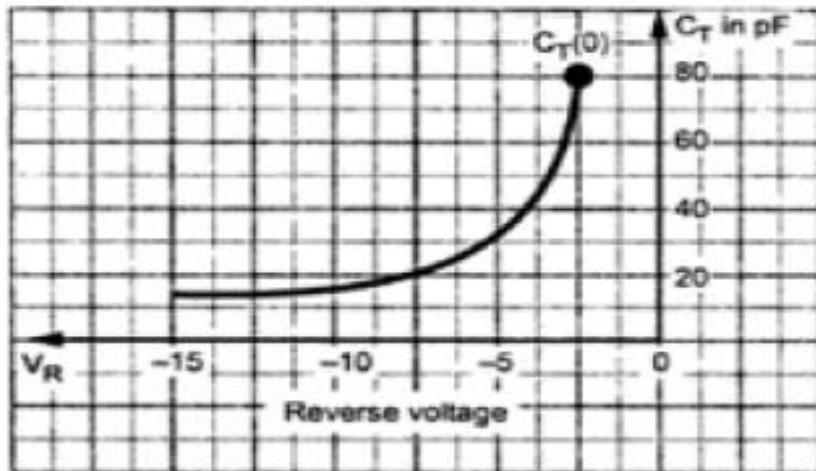

Fig. 1.16 Variation of  $C_T$  versus Reverse voltage
- As the reverse bias applied to the diode increases, the width of the depletion region (W) increases. Thus the transition capacitance  $C_T$  decreases.
- In short, the capacitance can be controlled by the applied voltage. The variation of  $C_T$  with respect to the applied reverse bias voltage is shown in the Fig. 1.16.